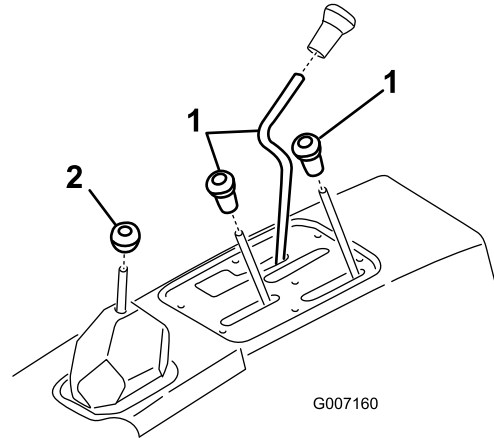

Figure 7
- Unscrew and remove all knobs from console levers and from the gear shift lever (Figure 7).